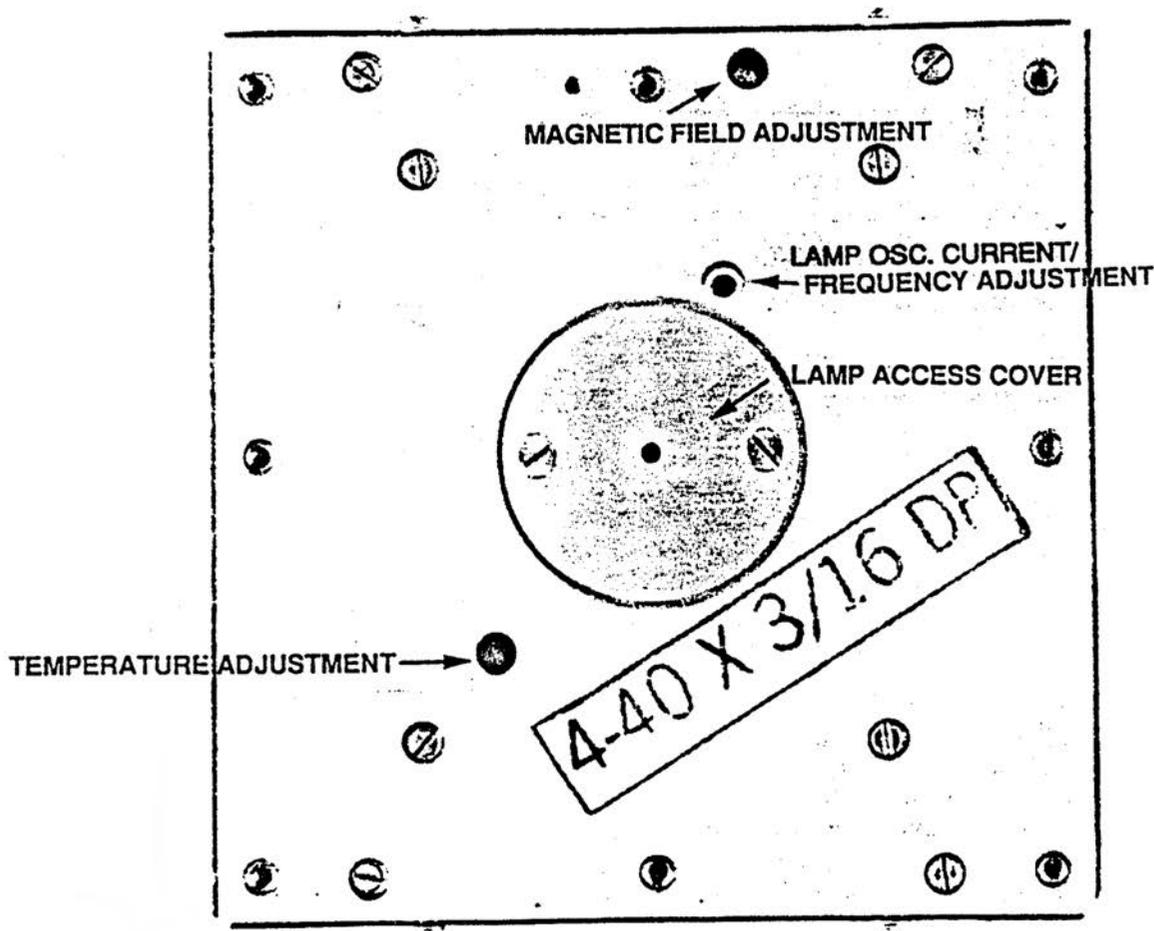

Figure 4-8. Lamp Adjustment Ports
(1) Rubidium Lamp Replacement
Although this is seldom a cause for failure in the FRK (refer to 4.4.2.5 (2) for symptoms), the Rubidium lamp is replaceable. The Rubidium lamp is accessed by removing the two screws holding the Lamp Cover Plate to the baseplate (refer to Figure 4-8). A slotted access plate is beneath the cover plate. Once the access plate has been removed, the base of the lamp housing is visible.
Mechanical capacitor C11 provides for current/frequency adjustment of the oscillator and is accessible from outside the unit. Figure 4-8 illustrates the location of the adjustment port.